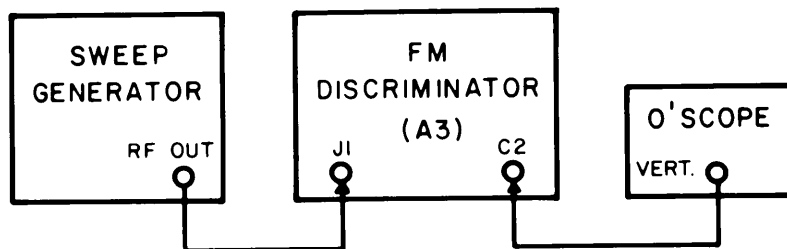

Figure 5-4. Test Setup, FM Discriminator (A3) Alignment
- a) Construct circuit as shown in Figure 5-4.